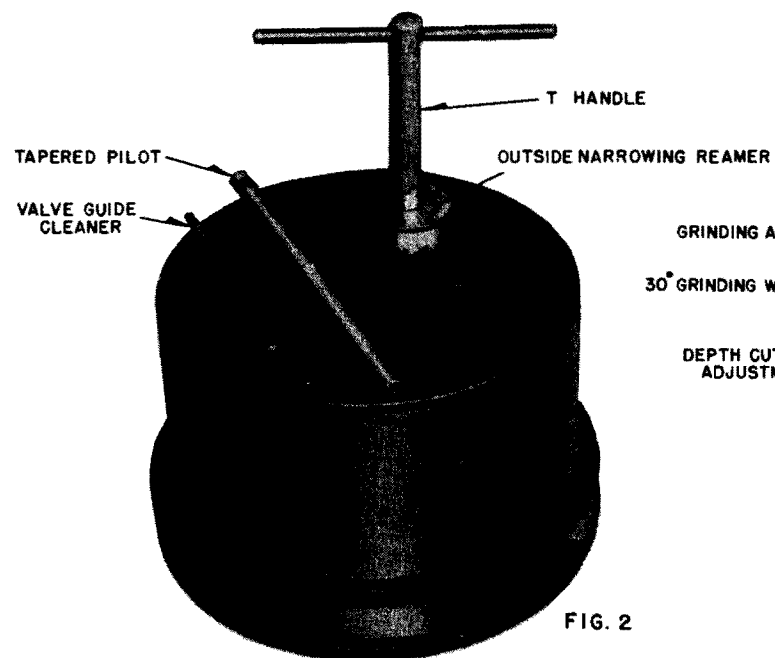

FIG. 2
- e. Use 75°-90° cutter as in Fig. 2 of Plate 1468 to true edge of valve seat. Turn by hand, not by motor.